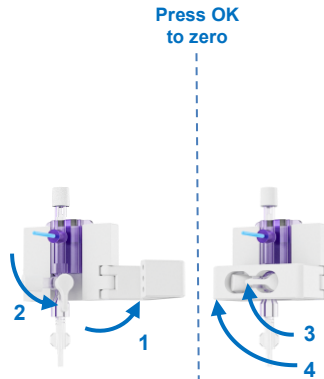

Figure 24 Zeroing of the pressure sensor
- Open the bracket of the pressure sensor holder to access the valve on the pressure sensor (Figure 24; step 1). As instructed on the display, turn the valve on the pressure sensor downwards to open the sensor to measure atmospheric pressure (step 2).
- Turn the pressure sensor valve back to horizontal position (see Figure 24; step 3) and close the bracket of the pressure sensor holder to protect the valve from unintentional opening (step 4). Press OK on the pump unit to continue.
- In case the Kidney Assist is not able to determine if the pressure sensor is appropriately connected to the perfusion circuit, check if the position of the valve of the pressure sensor is in the horizontal position, see Figure 24, step 3). Press OK if the valve of the pressure sensor is in the horizontal position.